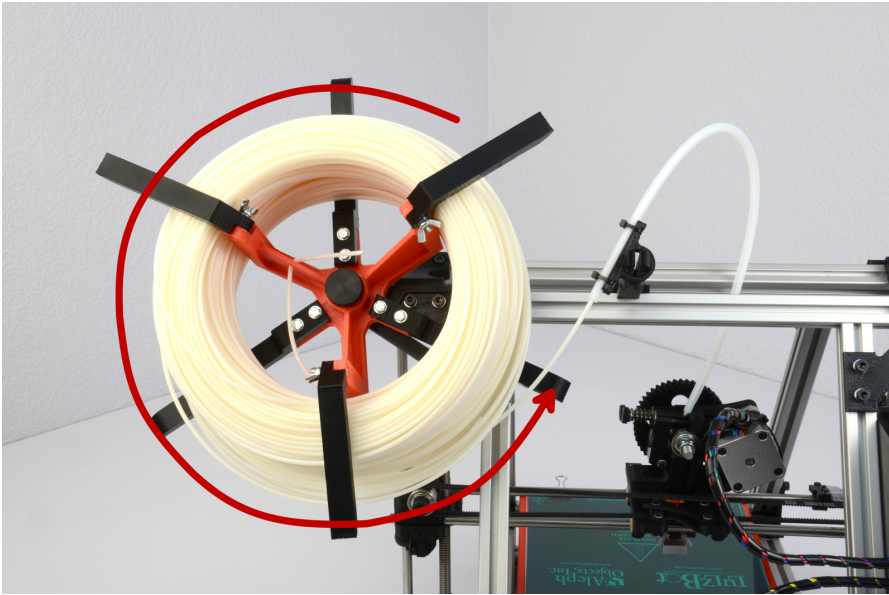

Figure 4.1: Filament spool direction
4. Slide the coil over the spool upper arms. Make sure the filament coil direction is counter clock wise (from the rear of the printer) when placing the coil on to the spool (Fig. 4.1, page 36).